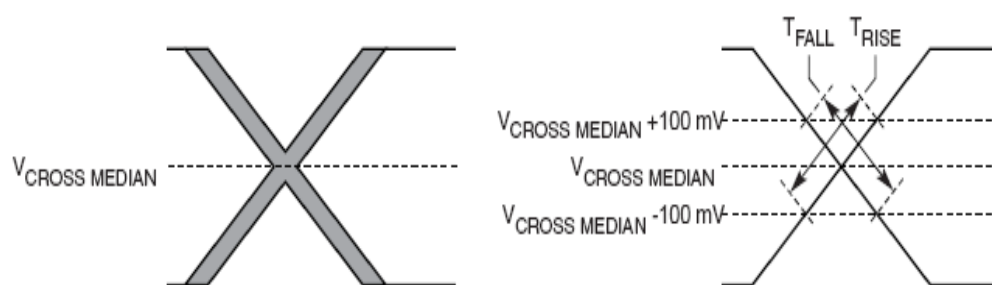

Figure 51. Single-Ended Measurement Points for Rise and Fall Time Matching
- Matching applies to rising edge for SDn_REF_CLK and falling edge rate for $\overline{\text{SDn_REF_CLK}}$. It is measured using a 200 mV window centered on the median cross point where SDn_REF_CLK rising meets $\overline{\text{SDn_REF_CLK}}$ falling. The median cross point is used to calculate the voltage thresholds that the oscilloscope uses for the edge rate calculations. The rise edge rate of SDn_REF_CLK should be compared to the fall edge rate of $\overline{\text{SDn_REF_CLK}}$, the maximum allowed difference should not exceed 20% of the slowest edge rate. See Figure 51.